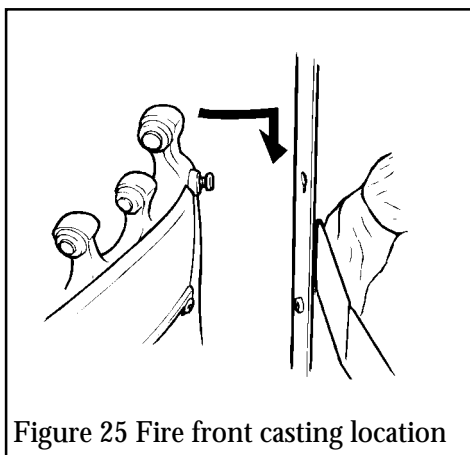

Figure 25 Fire front casting location
12.1 All models except black & chrome front casting Fit the fire front casting to the front surround. Locate the two screw heads at the rear top corners of the casting through the keyhole slots at the inner sides of the surround. If the screw heads do not project enough or project too far, the screws can be adjusted. Lower the casting so that it rests on the hearth (see figure 25).